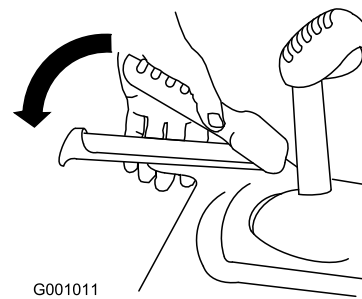

Figure 35
2. Engage the traction lever and hold it in place (Figure 35).